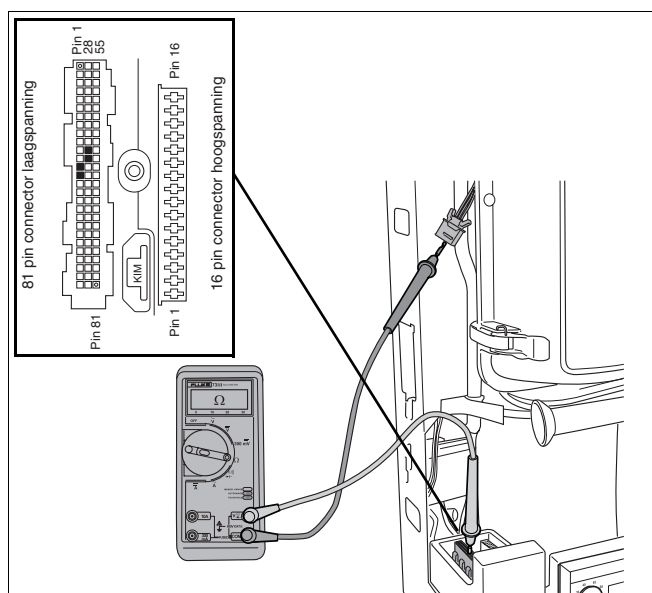
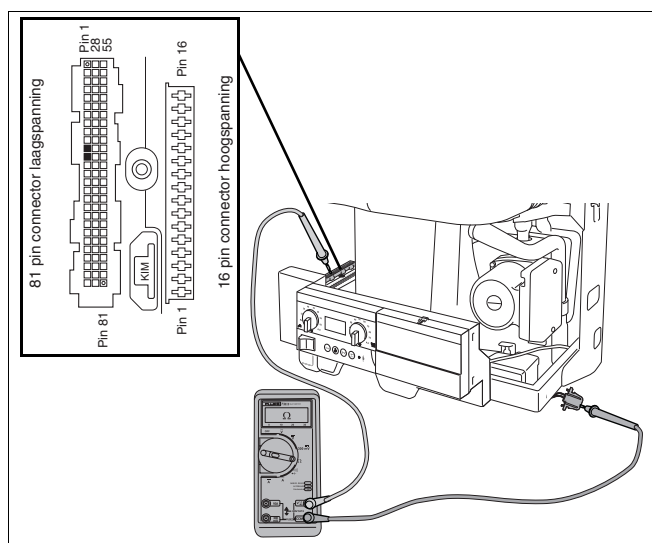
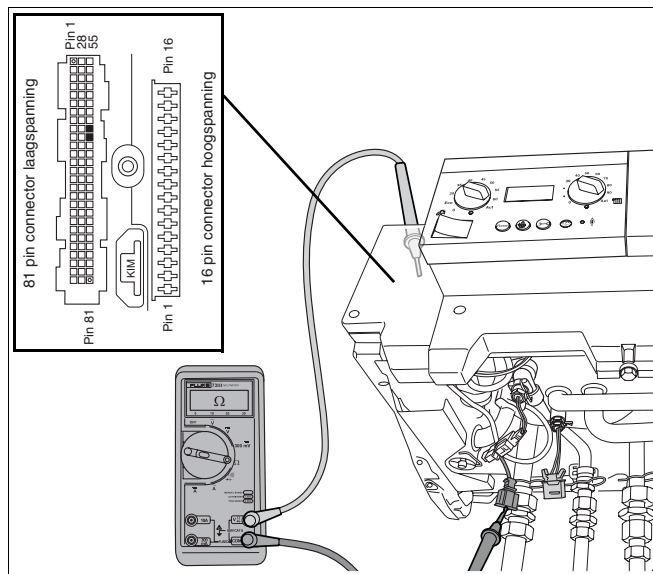

fig. 81 Measure resistance of bi-sensor
fig. 82 Measure resistance of return sensor
fig. 83 Measure resistance of hot water heat retaining sensor
- Check each sensor's cable by measuring its resistance (see fig. 81, fig. 82, fig. 83 and fig. 83).